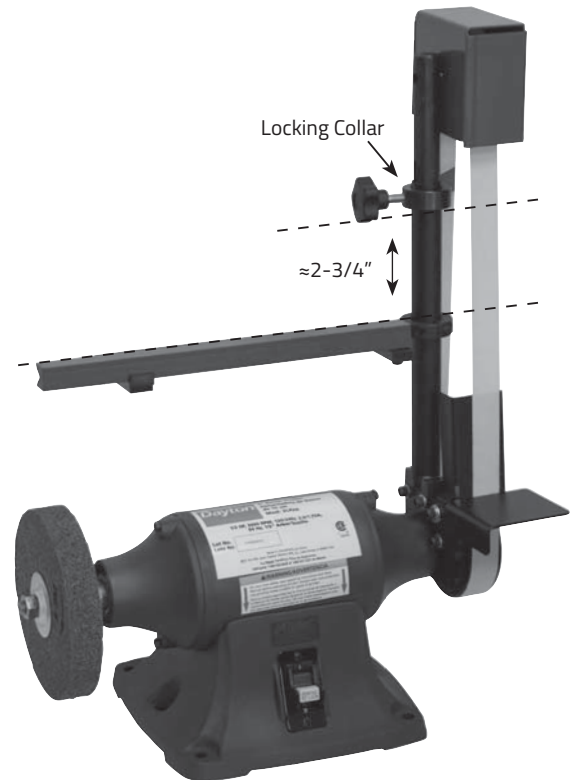

Fig. 1
- 2** Use pen to place mark 2-3/4" down from **Locking Collar** on the **Sanding Belt Adjustment Bar**. (Fig. 1)